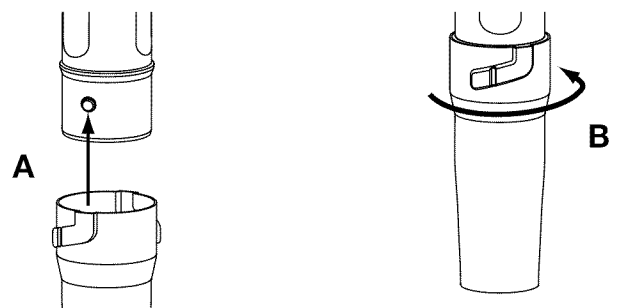

Fig. 5
7. Align the bump slot on the top end of the nozzle with the bump on the bottom end of the second lower blower tube (Fig. 5, A).
8. Insert the bump on the second lower blower tube into the bump slot on the nozzle (Fig. 5, A).
9. Twist the nozzle as shown around the second lower blower tube until the nozzle bump locks into place (Fig. 5, B).